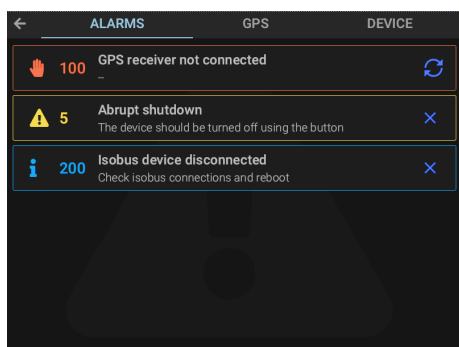

Fig. 91
Press **Status** to display the **ALARMS** menu (Fig. 91).
- Press the key  to the right of the notification to restart the alarm-related Software (Fig. 91).
The low priority alarm or info notifications can be turned off by pressing the **X** key to the right of the notification (Fig. 91).